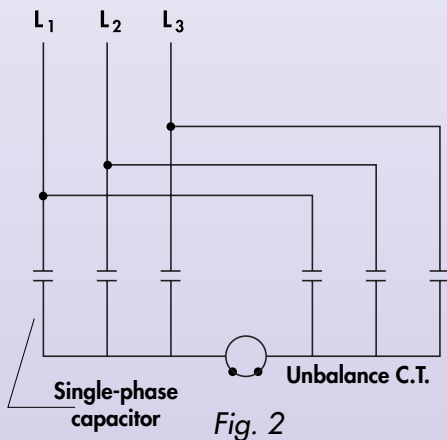

Fig. 2
### ■ Double star wiring (fig. 2)
- equipped with **single-phase connection** capacitors (fig. 2 or 3)